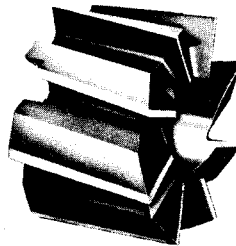

Fig. 4.230 Shell end mill
6. *Shell end mills*, Fig. 4.230. Shell end mills are made to be fitted on to stub arbors (see the following section) which take the place of the shanks. They are thus cheaper to replace than solid end mills.